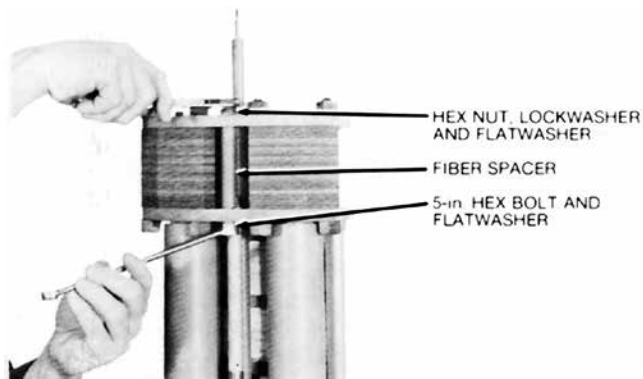

Figure 8. Removing 5-in. hex bolt from between interrupter stacks
- A. Remove the 5-in. hex bolt, flatwasher, fiber spacer, flatwasher, lockwasher, and hex nut located between the two interrupter stacks (Figure 8).